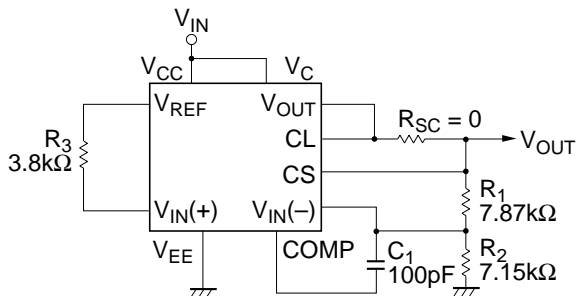

**Figure 1 Low Voltage (2 to 7 V) Regulator**
**Low Voltage (2 to 7 V) Regulator:** Figure 1 shows the construction of a basic low voltage regulator. The divider (resistors  $R_1$  and  $R_2$ ) from  $V_{REF}$  makes the reference voltage, which will be provided to the noninverted input of the error amplifier, less than output voltage. In the fixed voltage source where the output voltage will be fed back to the error amplifier directly as shown in figure 1. Output voltage will be divided  $V_{REF}$  since the output voltage is equal to the reference voltage.